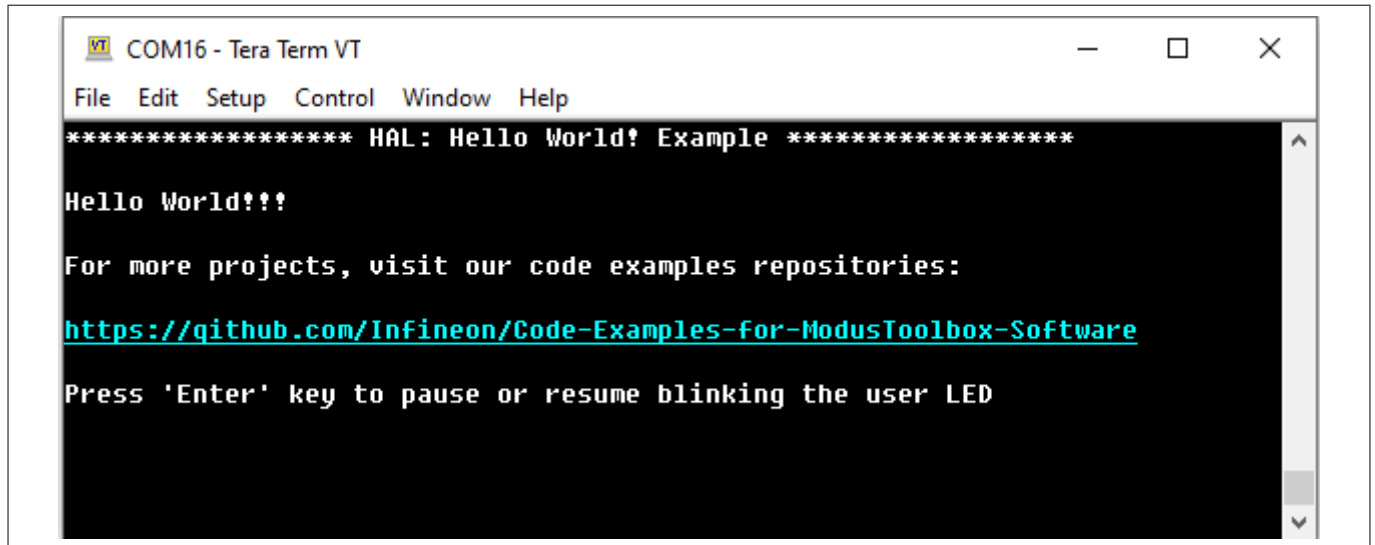

Figure 5 Serial terminal boot message
4. Press the **XRES button (SW1)** on the board and confirm that the serial terminal application displays the bootup message as shown in Figure 5